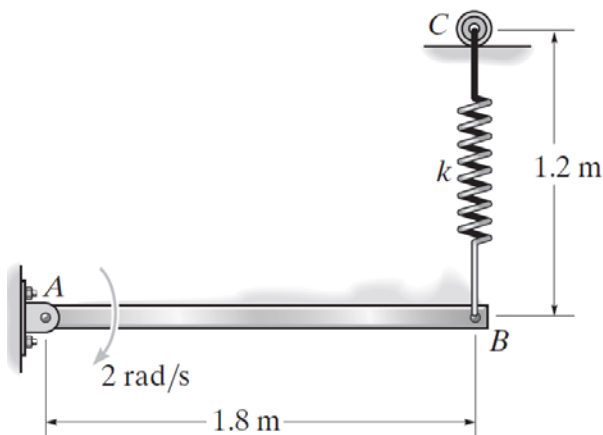

Figure 4[a]
4. [a] At the instant shown in Figure 4[a], the 25 kg bar rotates clockwise at 2 rad/s. The spring attached to its end always remains vertical due to roller guide at C. If the spring has an unstretched length of 0.6 m and a stiffness of $k = 100 \text{ N/m}$, determine the angular velocity of the bar at the instant it has rotated 30° clockwise.